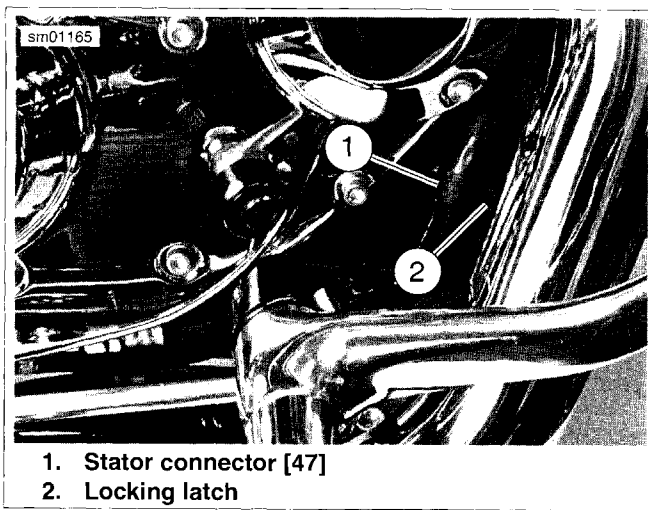

Figure 6-3. Stator Connector [47] Location
4. See Figure 6-3. Plug stator connector [47A] (1) into socket connector [47B]. Fold external locking latch (2) over and lock in place.